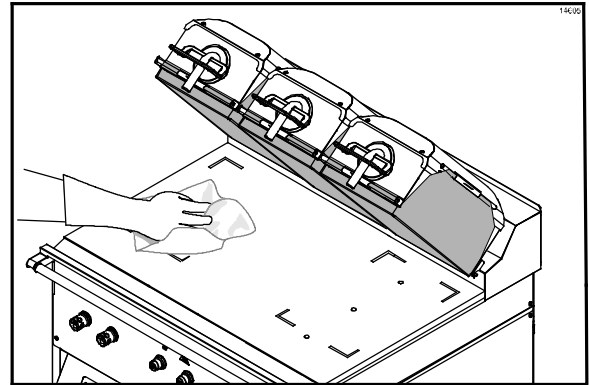

Figure 67
- 41. Wipe the lower grill surface with a clean, sanitizer-soaked grill cloth. Repeat until surface is clean. (See Figure 67.)